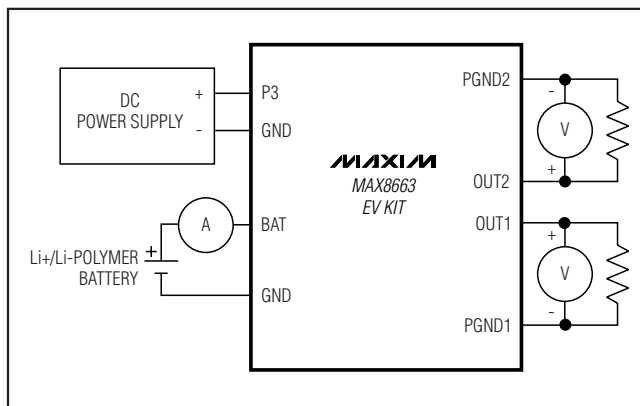

Figure 1. Test Procedure Setup (Caution: Do Not Exceed 5.5V at V_L)
- 11) Make connections to the EV kit as shown in Figure 1, except do not connect the battery until step 16.